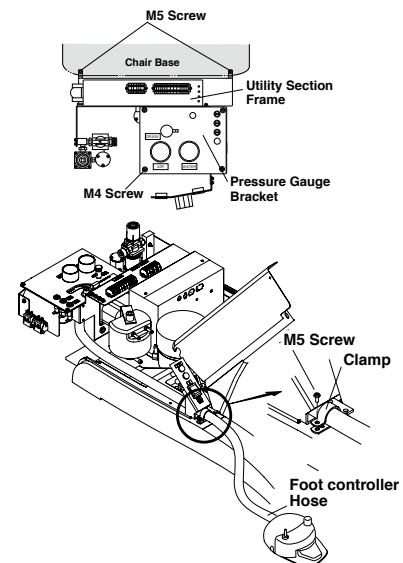

Fig.6-7 Utility Section Frame Installation
(2) Utility Section Frame Installations
- A. Remove 4 x M4 screws and remove the pressure gauge bracket from the utility section frame to make installation space. (Fig.6-7)
- C. Fix the utility section frame to the chair base with 2 x M5 screws. (Fig.6-7)